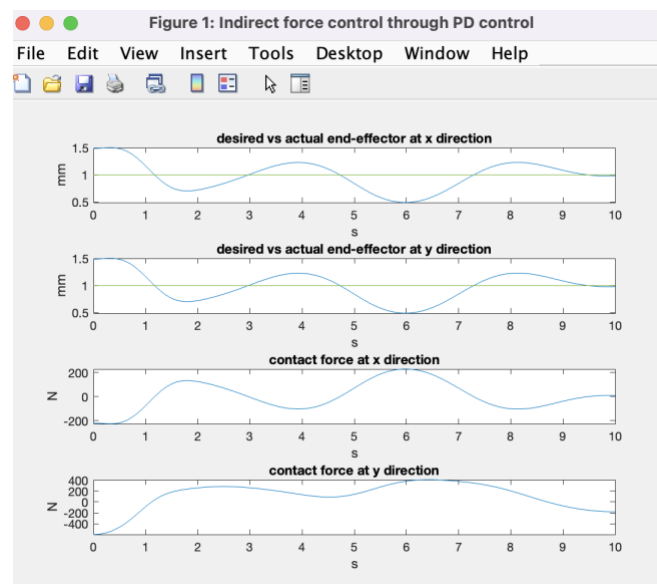

Figure 14
**Step 3:** Once you have your values input click “Generate PD Control”. It will return 4 plots, 2 of them being the x, y positions of the actual and desired end effector as a function of time, and the other 2 plots as contact force as a function of time as shown in Figure 14.